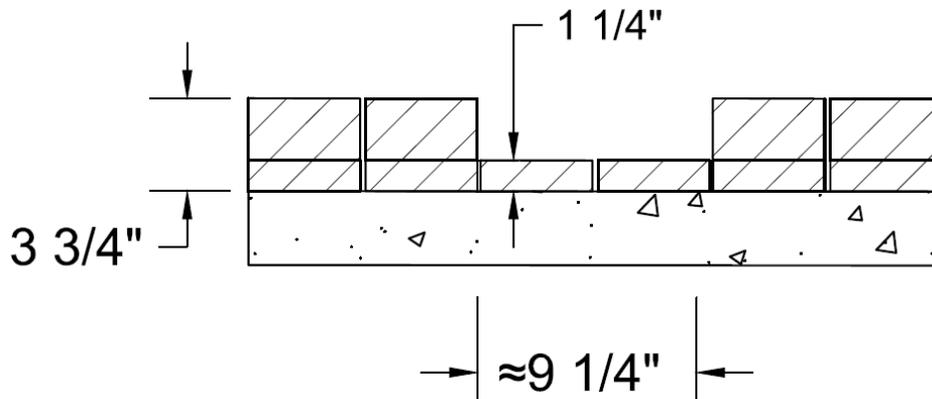

FIGURE 46
- 4) The 48", 60", 72 and 96" XCELUX SEE-THRU fireplaces will require the ISFXLB24/36/48/60/72 (N/P) (respectively): Gas supply piping for these models shall terminate not less than 3" from sidewall. **(Figure 46)**
- 5) The 120" XCELUX SEE-THRU fireplaces will require the ISFXLB96 (N/P) (respectively): Gas supply stub piping for this model shall terminate within 3" from center of the cavity. **(Figure 46)**